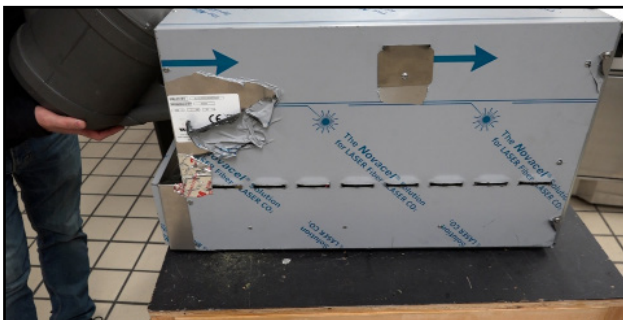

Fig.65
33. Fill water pan with water. Plug unit in and test to verify that the unit is working correctly.(Fig.65)